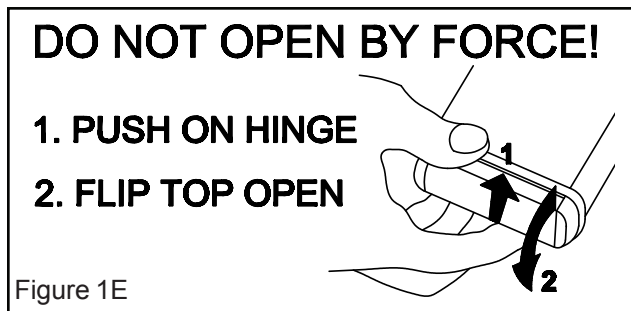

Figure 1E
2. Open the top lid of the Logger to install SD card. **Do not open lid by force!** See figure 1E
Do not open lid by force! See figure 1E.